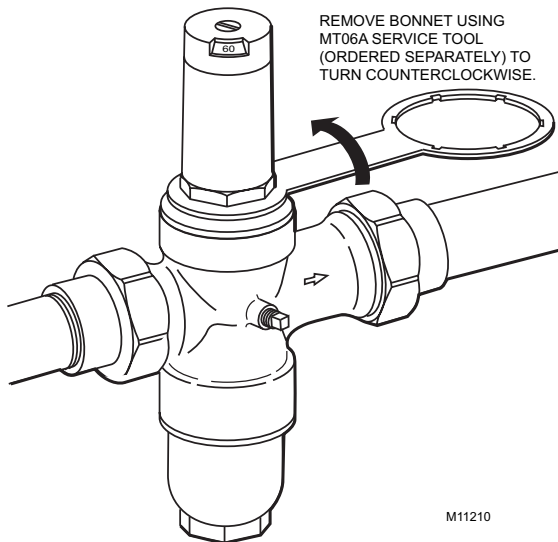
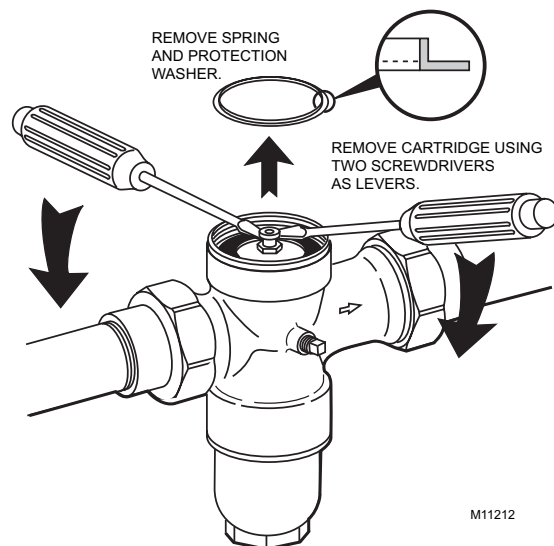

Fig. 3. Removing Bonnet.
Fig. 4. Removing Cartridge.
3. Remove the bonnet (See Fig. 3) by turning counterclockwise. Remove the spring and protection washer (See Fig. 4).
4. Remove the cartridge using two screwdrivers as levers (See Fig. 4). Remove the cartridge O-ring.